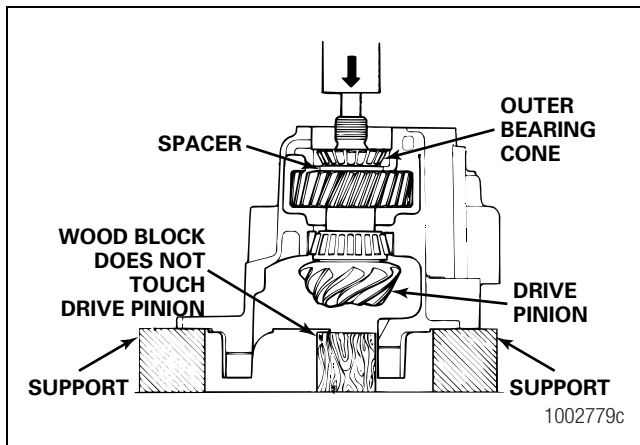

Figure 5.18
1. Prevent the drive pinion assembly from rotating by using a fixture to hold the teeth of the helical driven gear or place wood blocks between the head of the pinion and the carrier wall. Remove the nut and the washer from the shaft of the drive pinion. Figure 5.18.